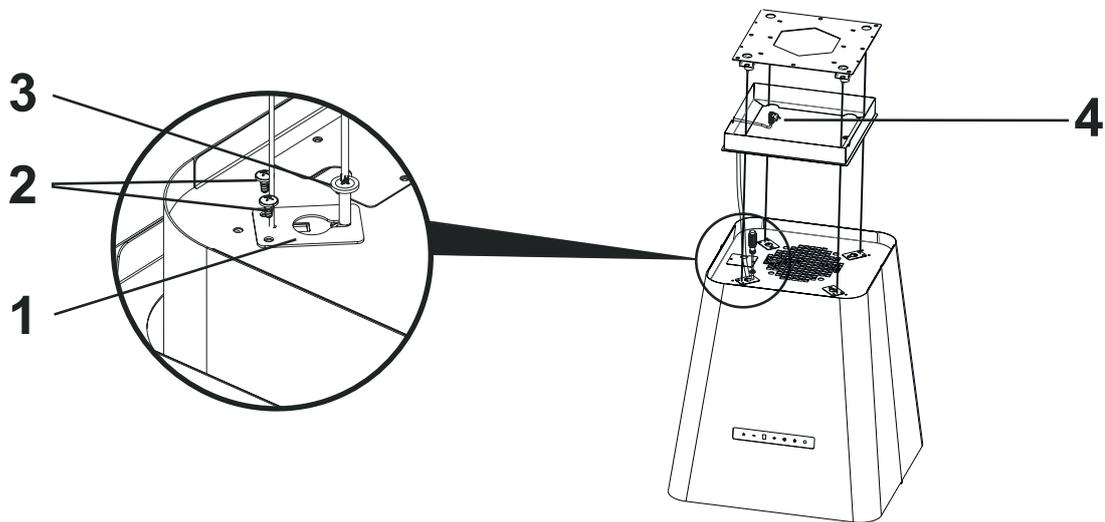

Fig. 13
1. ➔ Mount 4 ceiling hanger locking mechanism (1) on the body with 3.5 x 9.5 screws (2) and M5 x 15 (3) screws (Fig. 13)
2. ➔ Let the feeder cable (4) through the ceiling hanger plate feeder cable through area (Fig. 13/5) and make the electrical connections. Close the ceiling hanger plate cover.